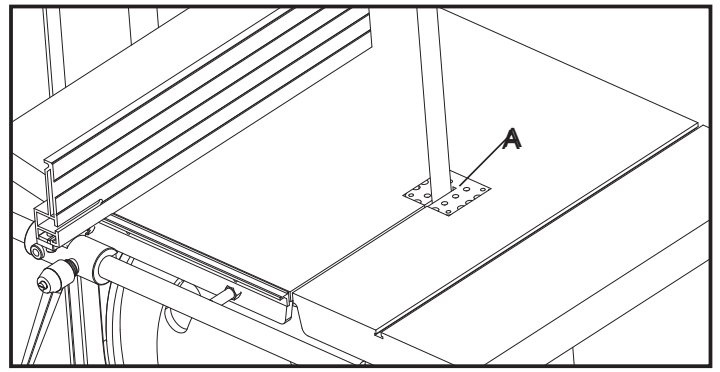
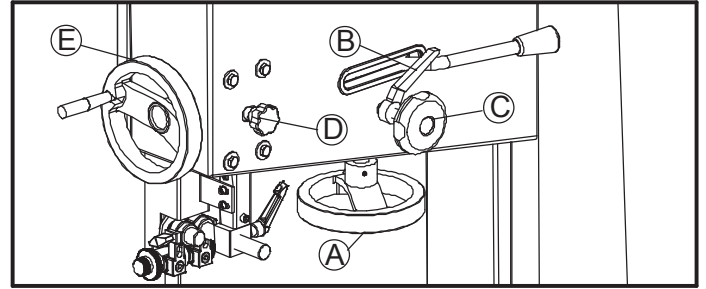

Fig.4.4.1
Fig.4.4.2
- To mount blade first remove the table insert (A of FIG.4.4.1) Place the blade onto the bandwheel checking the teeth are in a correct position, and then tighten the tension using the handwheel (A of FIG.4.4.2). The correct tension value is indicated on the tension scale inside the upper door, the indicated value corresponds to the width of the blade.
- Turn the bandwheels manually, checking that the blade does not interfere with any fixed parts and that the blade is placed correctly on the bandwheels. The points of the teeth should slightly protrude over the edge of the bandwheels. To adjust the blade position on the bandwheels slacken the locking lever(B of FIG.4.4.2), and then turn the knob(C of FIG.4.4.2): the blade will move inwards when turn the knob clockwise and the blade will move further out when turn the knob anticlockwise; A quarter of one circle is sufficient to make a noticeable displacement. Tighten the locking lever after the blade is positioned correctly.
The adjustable saw band guard should be positioned as close as possible to the workpiece. To adjust the height, release the locking knob(D of Fig.4.4.2) and turn the handwheel (E of Fig.4.4.2) to adjust the guard up or down. Lock the knob once the correct position of guard is obtained.